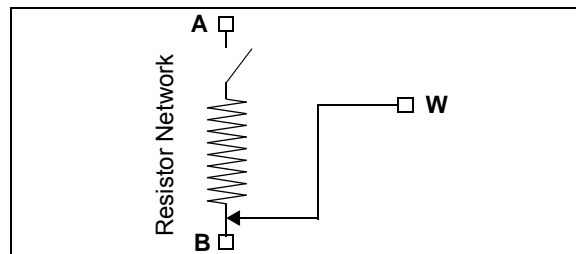

FIGURE 5-11: Resistor Network Shutdown State ($R0HW = 0$).
- The P0W terminal is simultaneously connect to the P0B terminal (see Figure 5-11)